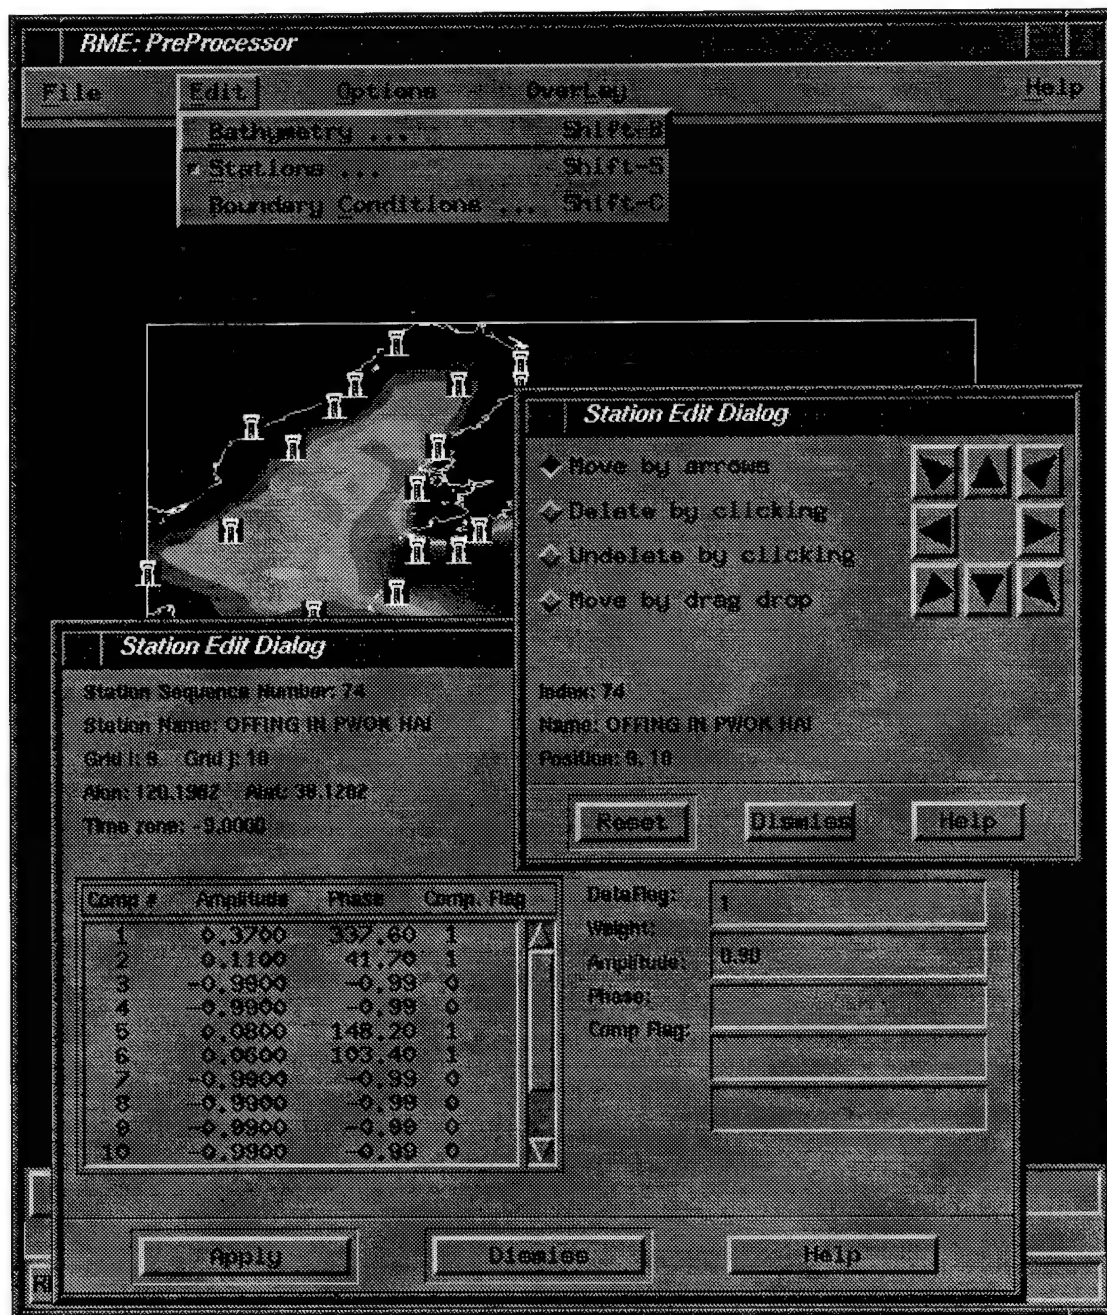

Figure 21 – Station editing in the Pre-Processor GUI
2. Activate the station editor by clicking on the 'Stations' button in the 'Edit' pull down menu. This pops up the 'Station Edit Dialog' window (Figure 21) which contains four radio buttons and eight arrow buttons.
4. Clicking on the station icon (while pressing the shift key) will display more information on the station, such as component names, amplitudes, and phases. Another 'Station Edit Dialog' window pops-up with the relevant station information (Figure 21). These can be altered by the user by entering different values.